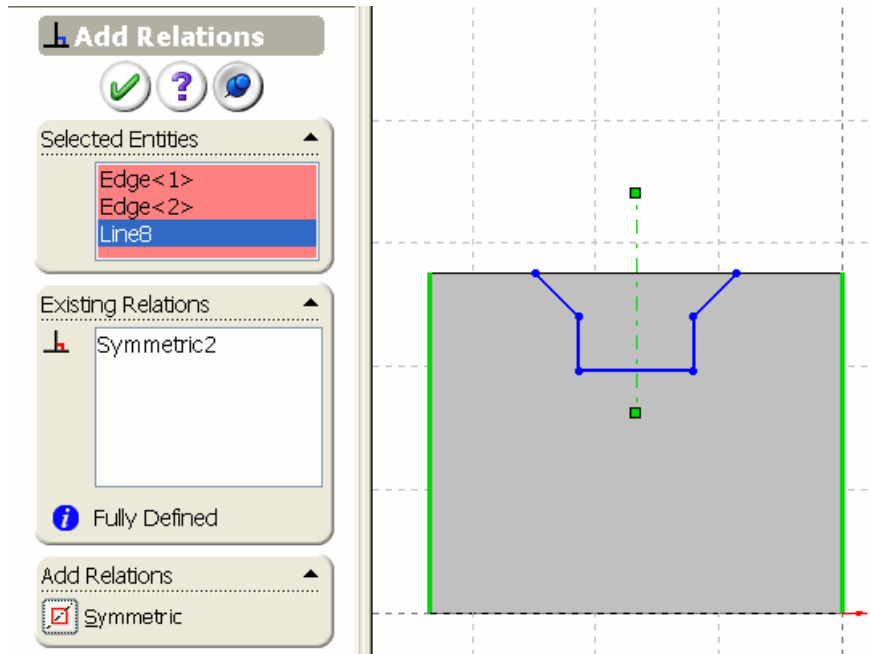

Figure 17 Symmetric Constraints for the centerline at the center of the face
- 14) Select **Symmetric**  in the Add Relation dialog box as shown in Figure 17 to make centerline at the center of face.